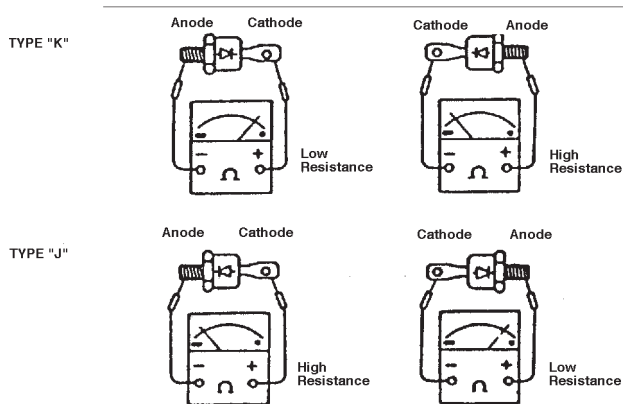

Figure 8. Testing Diode Elements
- To test the rotating rectifier diodes, disconnect the lead to the diode element and measure the resistance between the anode and cathode on each diode (see Figure 8).